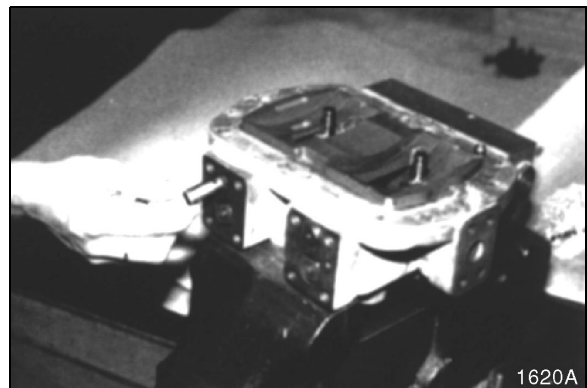

Figure 27
1. Remove regulator cover and retainer. See Figure 27.